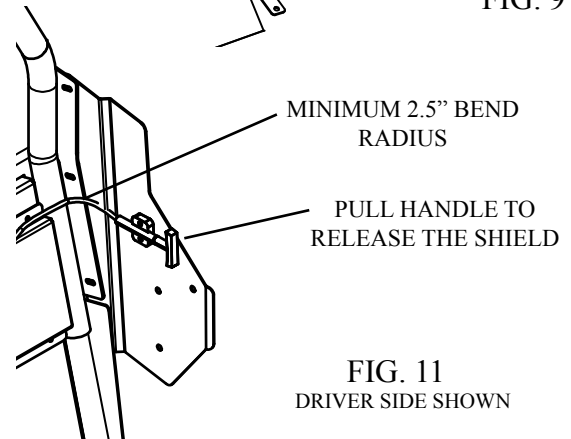

FIG. 11
- A. Find a easy and quick mounting location for the pull handle that ensures a minimum bend radius of 2.5" when routing the cable. The pull handle will release the viper shield latch when needed. We recommend mounting to the Driver-side Mounting Plate (3K4711D) as shown in Fig. 11 using our provided template on page 9.